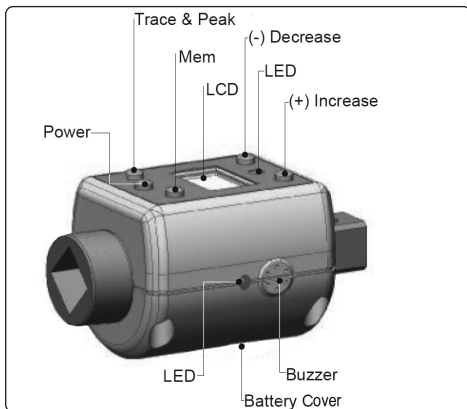

fig.1
- 4.1.1. Unscrew the four cross-head screws holding the rear battery cover and remove the battery cover (fig.1). Install two AA batteries, ensuring correct polarity. Refit the battery cover and refit and tighten the four cross-head screws.